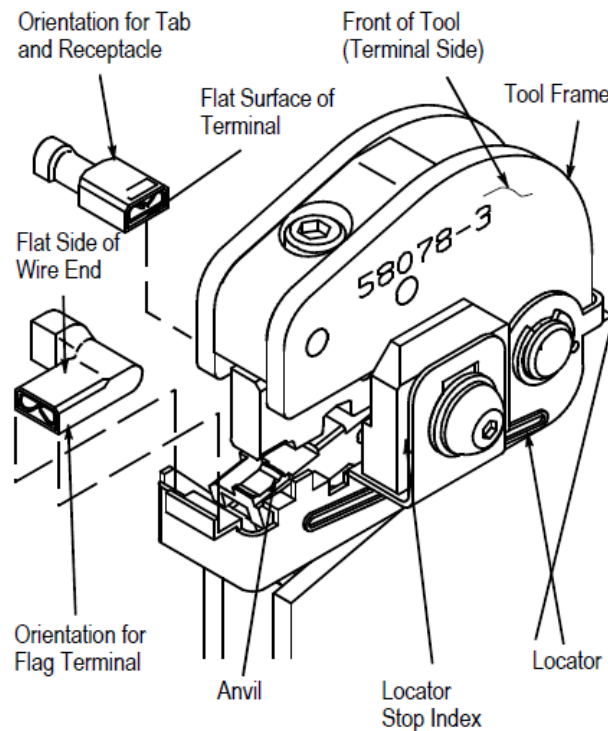

Figure 4
- Flag terminals must be crimped in the flag crimp section (see Figure 4).